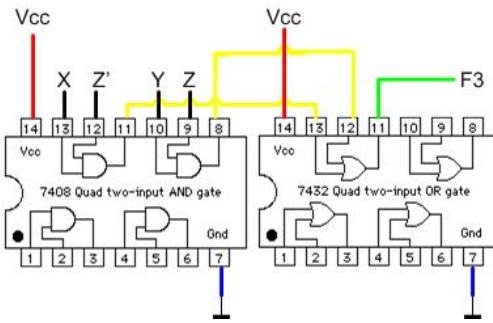

Figure 8. Layout Diagram
- d. Draw a Layout diagram giving the relative position of the chips on the breadboard (figure 8)